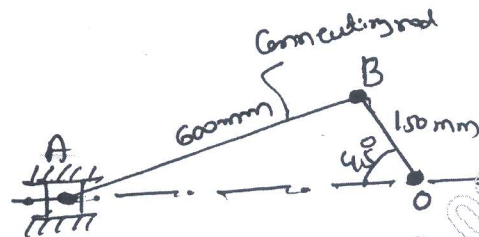

Fig.Q2(b)
- The Fig.Q2(b) shows the crank of a slider crank mechanism rotates clockwise at a constant speed of 300 rpm. The crank is 150 mm and the connecting rod 600 mm long. Determine angular velocity and angular acceleration of the connecting rod at a crank angle of 45° from innerdead center position by graphical method.